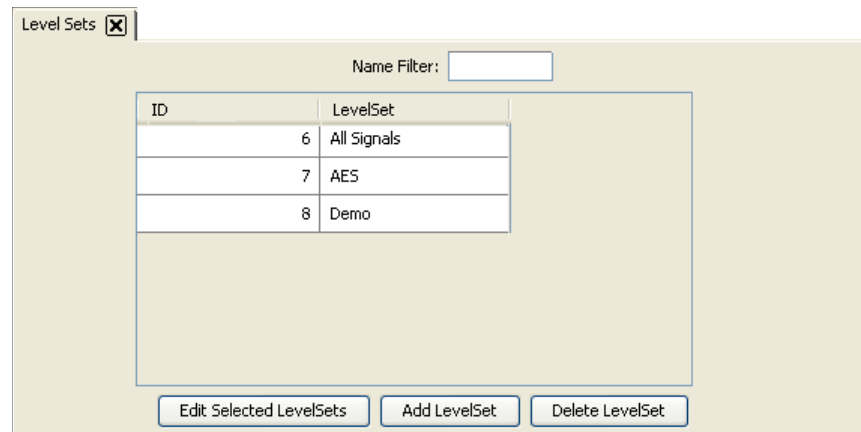

Figure 8-13. Level Sets Page
- 1 From the Navigation area, select the ‘Configuration’ pane and then ‘Level Sets’. The ‘Level Sets’ page appears, as shown in Figure 8-13.